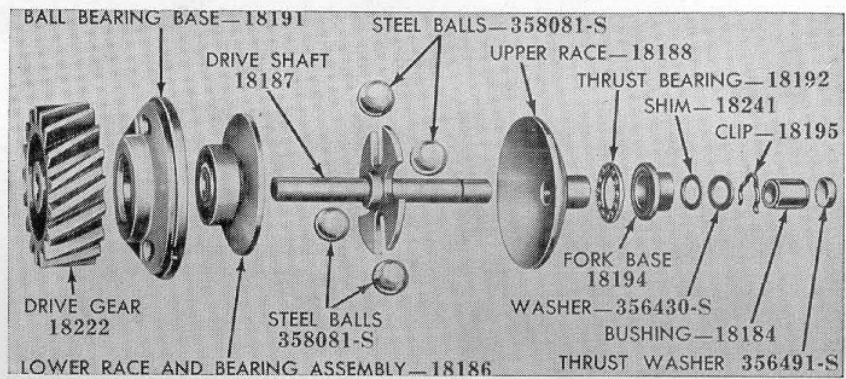

Fig. FO32—Exploded view of engine speed governor used on models 2N-8N-9N.
45. **OVERHAUL.** Remove governor from engine. Remove flyball unit, shaft and driven gear assembly Fig. FO32
Check governor lever shaft assembly and needle bearing Fig. FO34 for binding or excessive looseness and renew parts where required. If inner lever assembly is loose, install new parts or insert a $\frac{1}{2} \times 2\frac{7}{8}$ inch shim as shown in Fig. FO35. Check governor shaft bushing for wear and if necessary renew bushing, using suitable removing and reinstalling tools as shown in Fig. FO38. CAUTION: Make sure that thrust washer shown in Fig FO32 is in place before installing bushing.